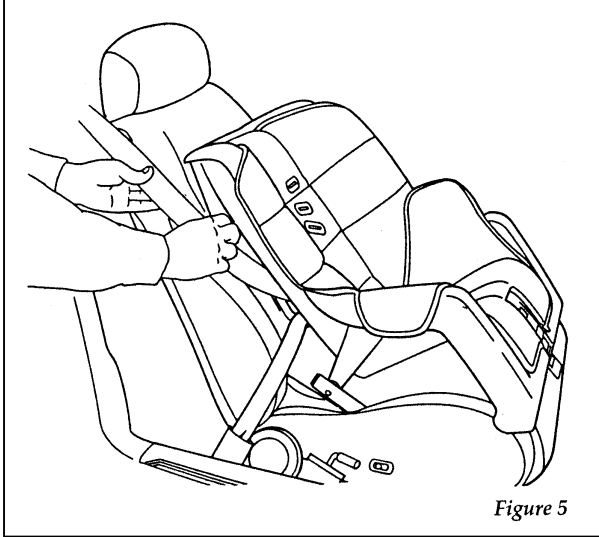

Figure 5
6. Allow the belt to retract. Pull up on the shoulder webbing. A clicking sound will be heard as the belt retracts. This indicates the retractor is in the automatic locking mode. Push down on the child seat while you pull up on the belt to remove any slack in the belt. Figures 5 and 6.